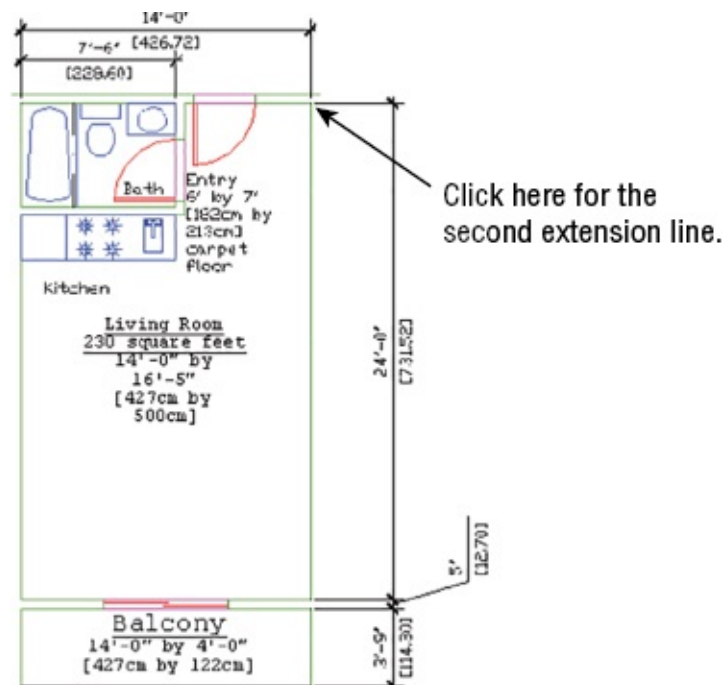

FIGURE 11.16 The overall width dimension
7. At the Specify second extension line origin or [Select/Undo] <Select>: prompt, click the upper-right corner of the entry, as shown in Figure 11.16.